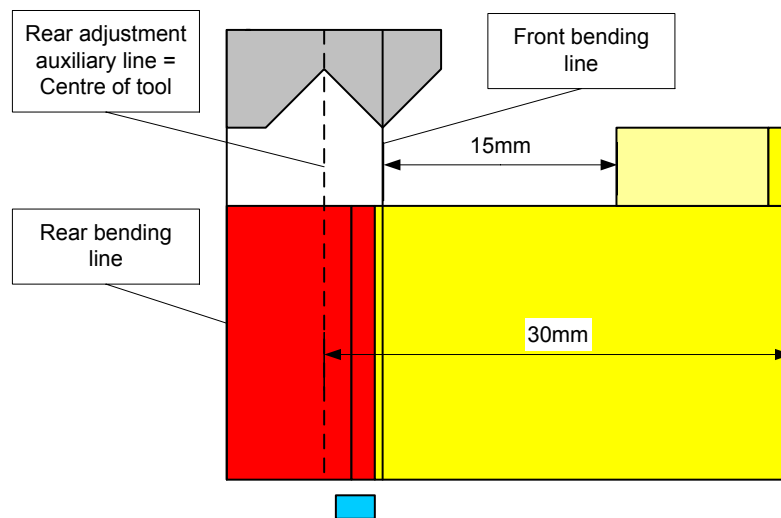

Fig. 6: Protected field⁴ for vertical special tools of tool class 1 (max. 32mm width)
- ▶ Special forms (e.g. Z-bending tools up to a width of 32mm), see Fig. 6.
- ▶ On vertical tools (front surface max. 45° to vertical), the front bending line is on the tool centre point, (see Fig. 6).